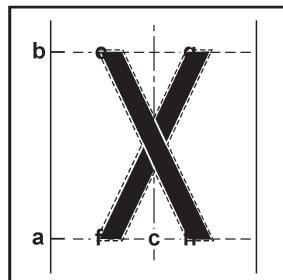

Figure 42
- Take a 16 inch roll of 3M™ Stamark™ Tape and lay it out with the left edge along the diagonal line extending from point "e" to point "h" as you would a crosswalk or stopbar. (See Figure 42.)
- Lay out the other diagonal line by first applying the section from point "g" and move towards the center of the "X". Cut diagonally along the first line that was installed and shown in Figure 42. Continue laying out the tape along the diagonal line extending from the center of the "X" to point "f". Use the diagonal end of the tape as a starting point at the center of the "X".